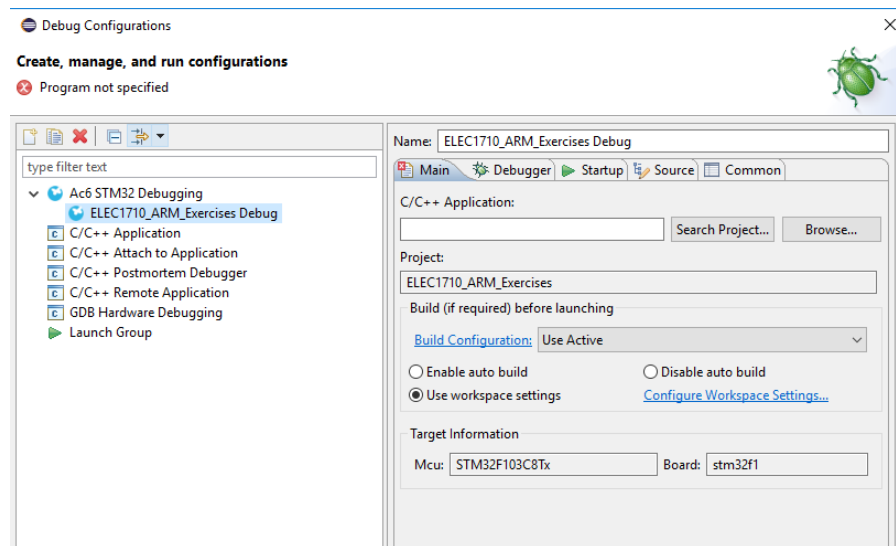
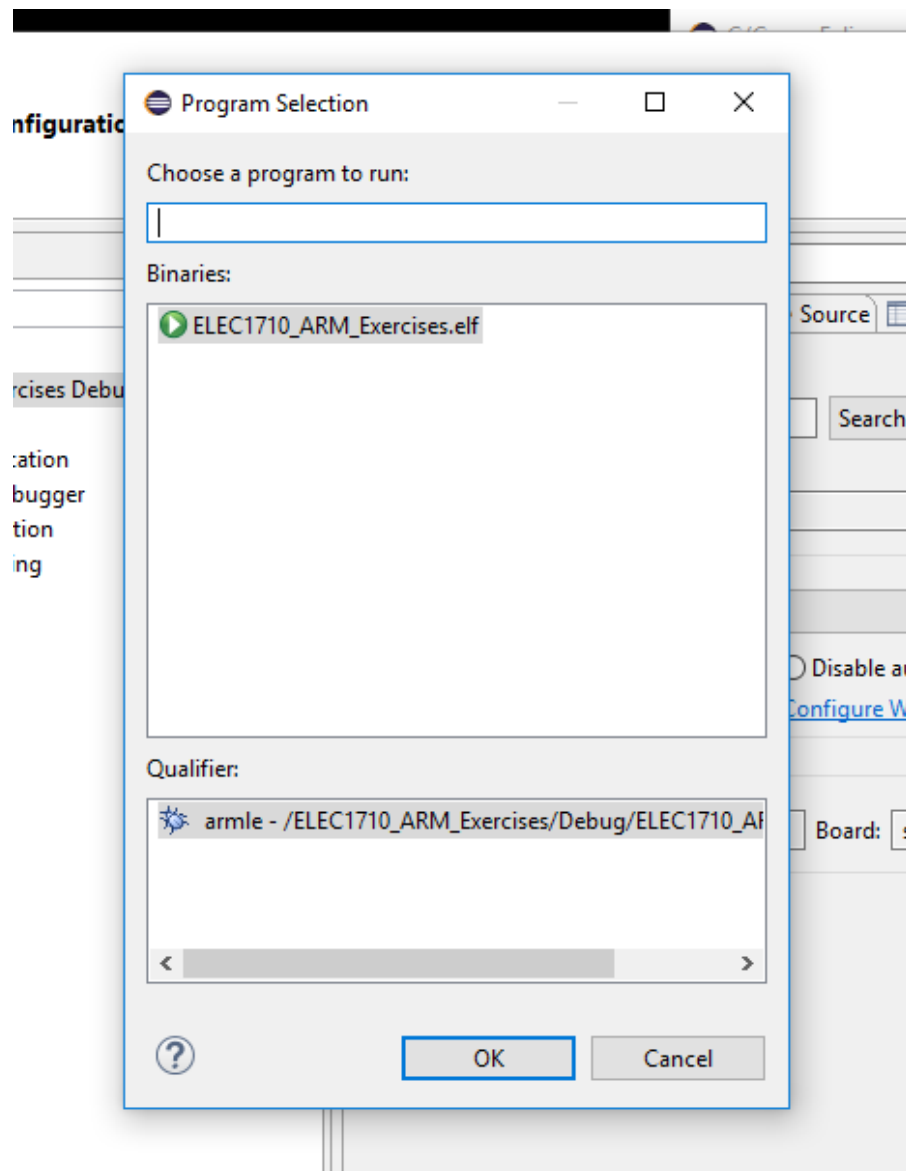
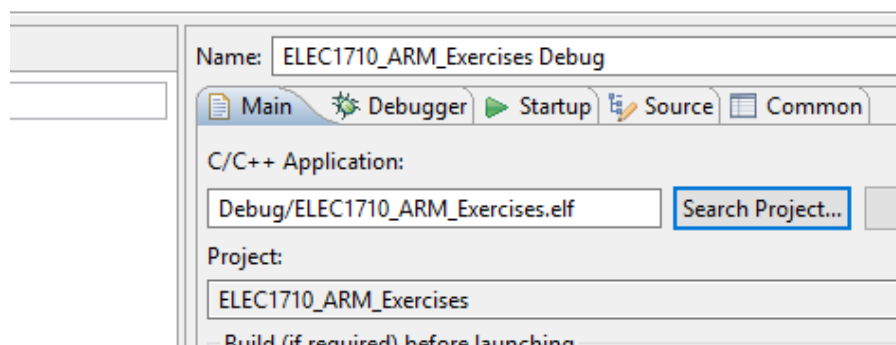

Figure 5: The debug configuration window.
Figure 6: Manually finding the .elf binary file.
Figure 7: A correctly configured 'Main' tab.
3. Select the new configuration and navigate to the 'main' tab as shown in Figure 5.
If the box under C/C++ Application is empty, as it is in Figure 5, select 'search project' and choose the binary as shown in Figure 6. After selecting ok the .elf file should now be shown as it is in Figure 7.